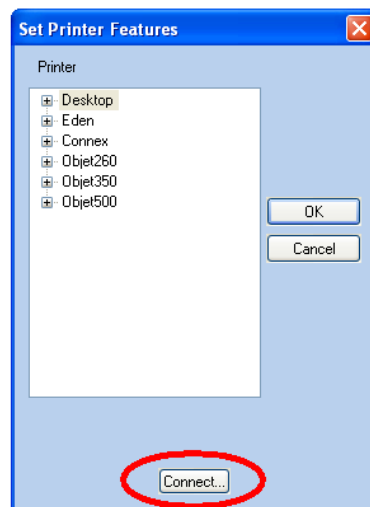

Figure 5-102 Connecting to a printer (A)
2. In the *Set Printer Features* dialog box, click **Connect** (see Figure 5-102 on page 5-83).